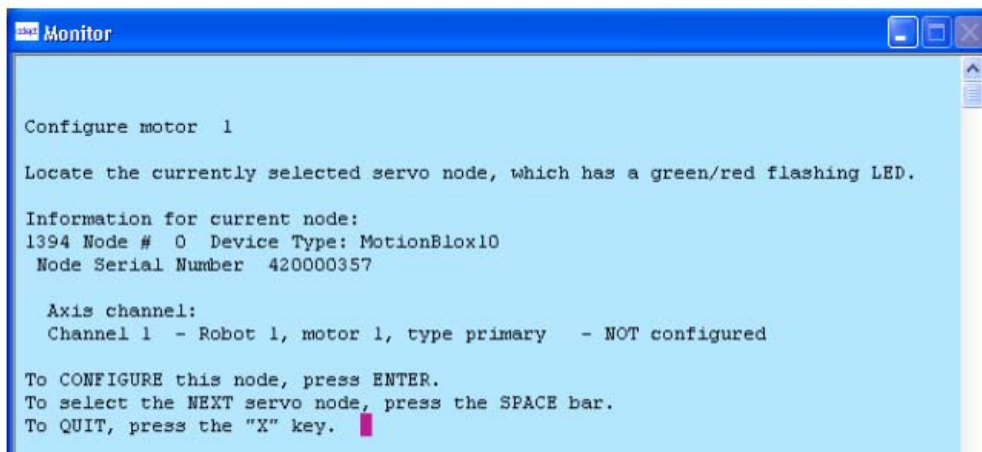

Figure 4-9. DC_SETUP (JTS Coordinated-Joint-Control Module)
5. Type "X" (or another one of the available axes displayed on screen) and press ENTER. A screen similar to the one shown in Figure 4-9 will be displayed.